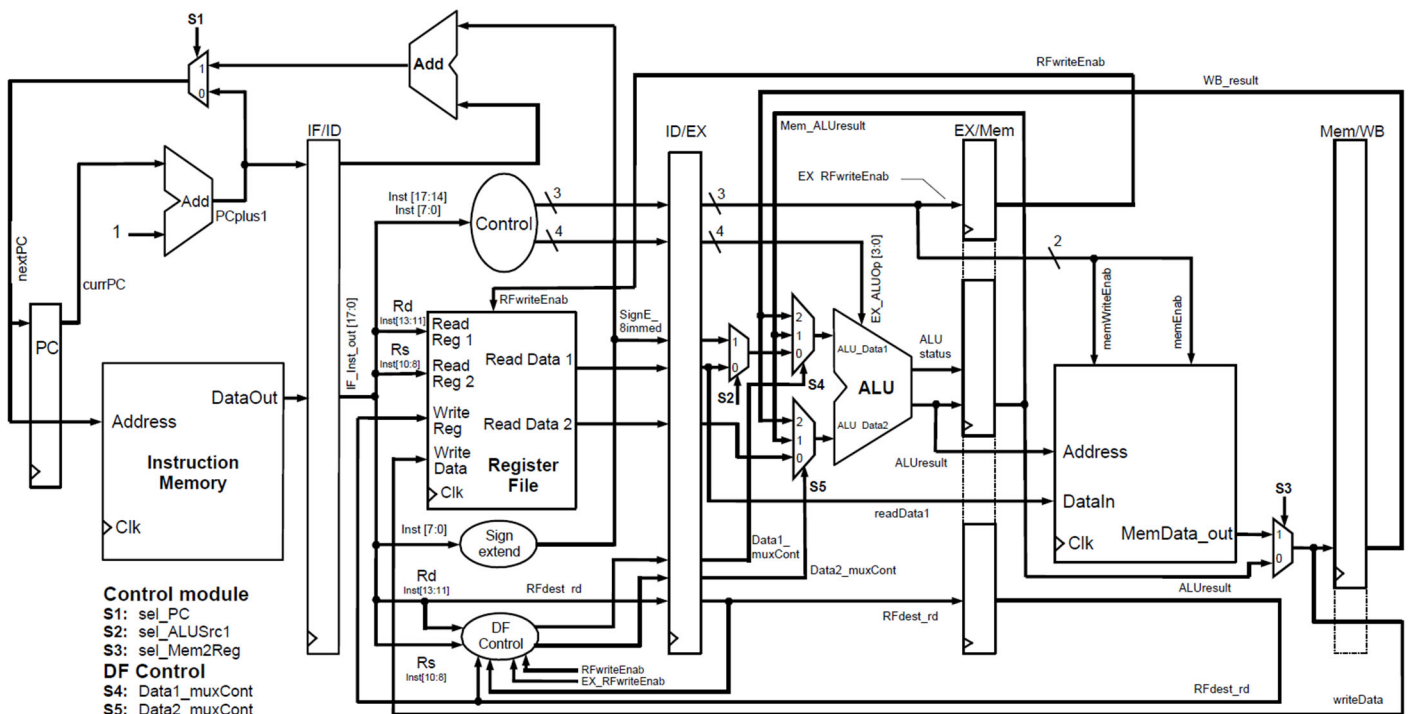

Figure 1: uP16 Block Diagram
You should look through the Module 8: uP Case Study lecture notes relating to data forwarding. You may also wish to examine Figure 1 and look at the Lab5 uP16 source code to see what is different from that of Lab4.
5. Examine the uP16 Block Diagram (Figure 1). Note that it has an extra control module in the ID stage (called *DF Control*). *DF Control* drives a pair of extra multiplexers in the EX stage (called S4 and S5) which direct data from the EX/Mem and Mem/WB pipeline registers into the ALU.
6. Open *ID_stage.v* and examine the *DF_control* module. Note that it has a port list but none of the inputs are used (which explains some of the unconnected port warning messages in Task1.2). The two outputs (*Data1_muxCont* and *Data2_muxCont*) are both set to zero. This means that data forwarding is disabled, and the processor pipeline behaves just like the version of uP16 shown in Figure 1 of Lab4.